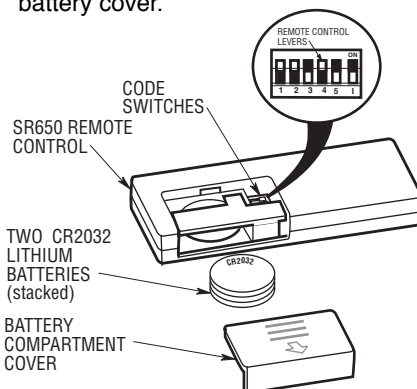

Figure 3
1. Remove the battery cover by pressing firmly below the arrow and sliding the cover off the control (Figure 3).